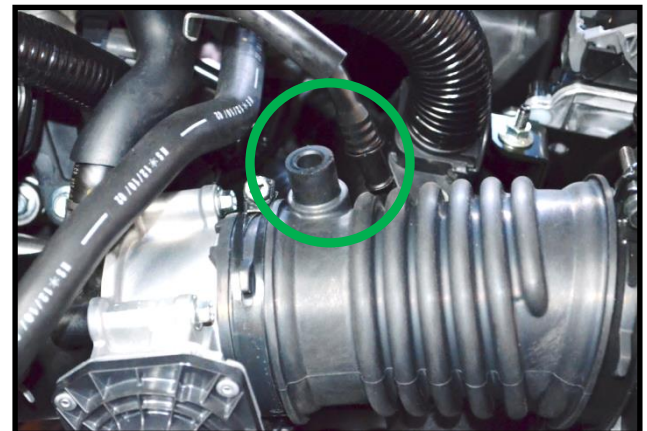

Figure 1c
- c) **Remove valve cover hose** from intake elbow. It should pull out with a little effort (shown with green circle removed in Figure 1c).